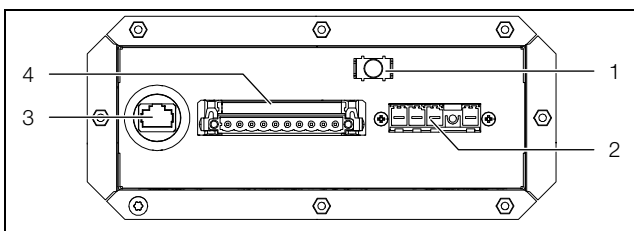

Fig. 33: Connection box
- The cable shielding can contact the earth terminal to the enclosure inside the connection box (fig. 33, item 1).